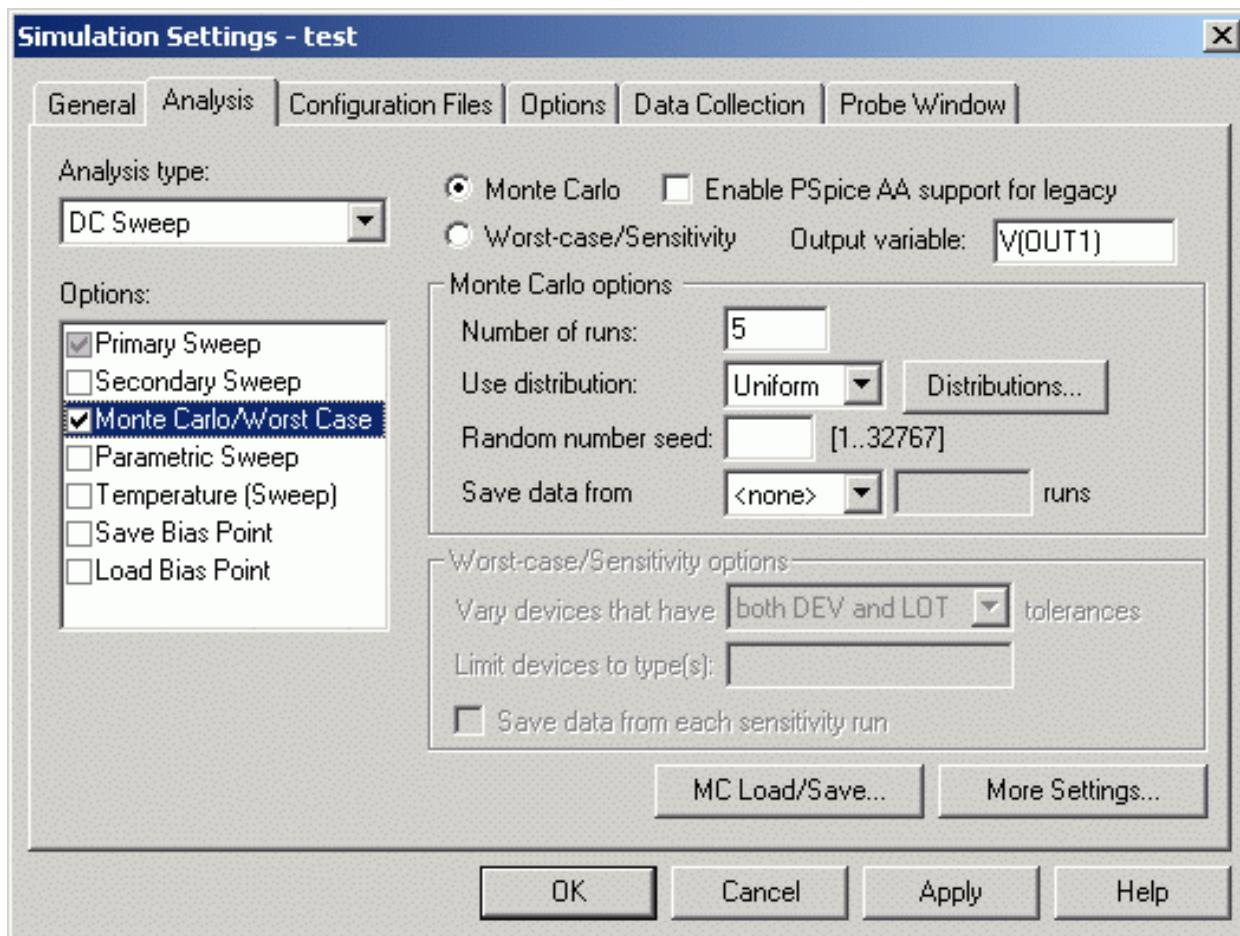

Figure 13-2 Monte Carlo analysis setup for EXAMPLE.OPJ.
9. In Capture, set up a new Monte Carlo analysis as shown in Figure 13-2. The analysis specification tells PSpice to do one